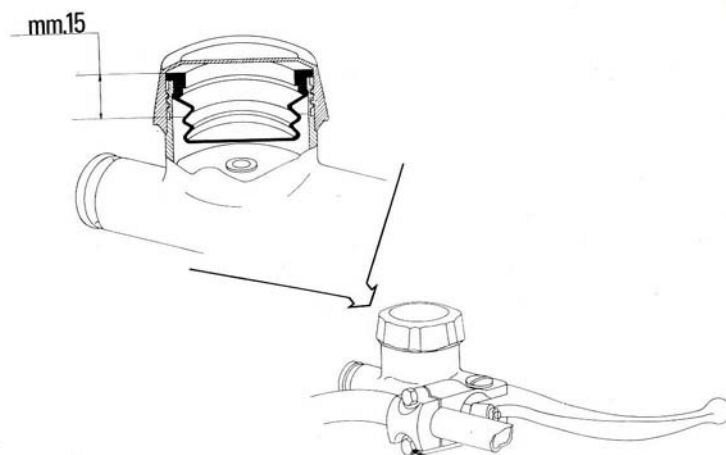

Fig. 43
Oil level should never be 15 mm. below the upper edge of the tank see fig. 43.
a) Restore (if necessary) the oil level in the tank (fig. 43).